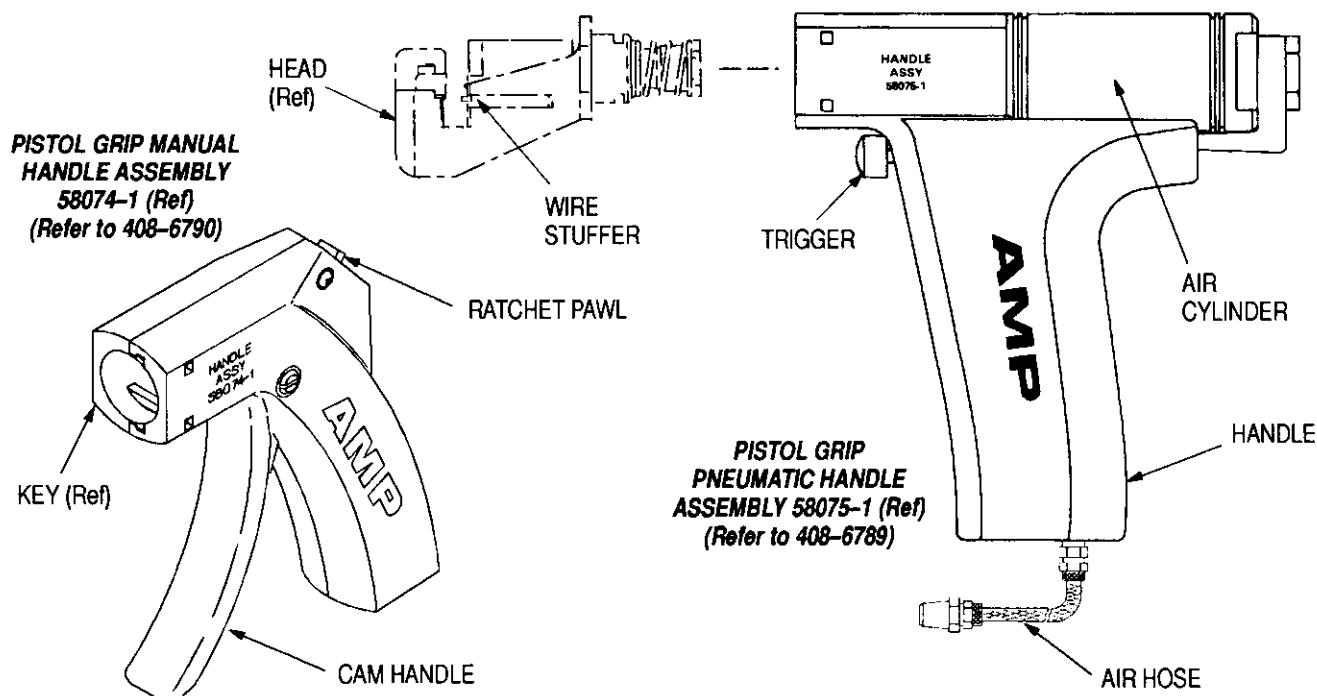

Figure 2
2. Squeeze the tool trigger (for the pneumatic handle assembly), cam handle (for the manual handle) or foot valve (for the bench mount pneumatic power assembly), and push the housing assembly against the wire insertor. See Figure 2.